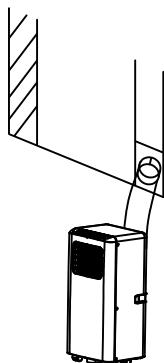
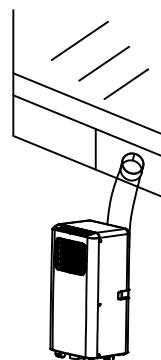

Fig.6
Fig.6a
- 2)As shown in Fig.6 and Fig.6a, install the exhaust hose and adjust the window position well.